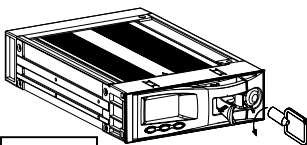

Fig. 1
- 8-1. Pull the active-handle outwards and use the miniature key provided and insert into the key hole, turning the key anti-clockwise, then the handle will auto-eject for pulling out. (Fig.1)